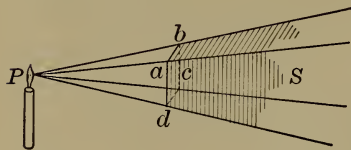

FIGURE 69. — SHADOW FROM A POINT SOURCE OF LIGHT.
**113. Shadow from a Point Source of Light.** — Figure 69 shows a shadow cast by an object in front of light coming from a *point source*.